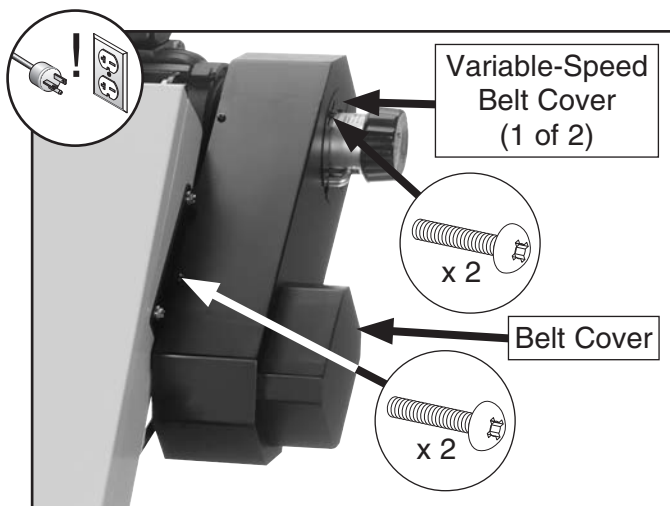

Figure 102. Location of variable-speed belt covers, belt cover, and screws.
2. Remove (2) Phillips head screws shown in **Figure 102** to remove variable-speed belt covers.
3. Remove (4) Phillips head screws shown in **Figure 102** to remove belt cover.